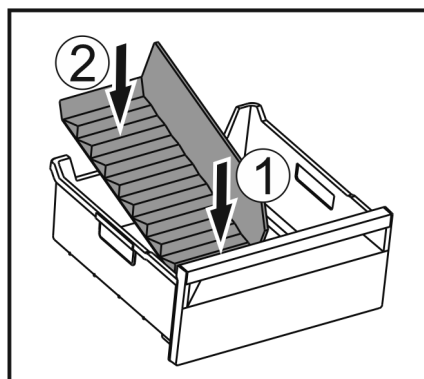

Fig. 115
- Insert the front part of the ice compartment divider. Fig. 115 (1)
- Lower the rear part of the ice compartment divider to the drawer bottom. Fig. 115 (2)